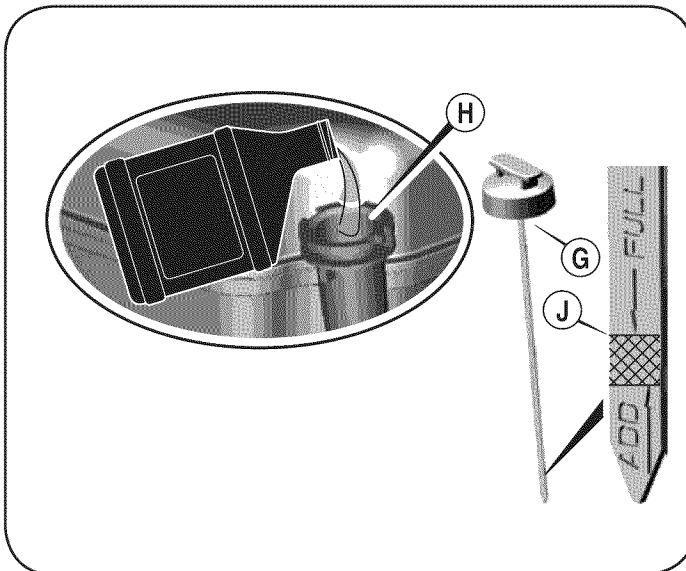

Figure 9
1. Remove oil fill dipstick (G). See Figure 9.
2. With the mower on level ground, empty entire contents of oil bottle provided into the engine oil fill (H).
3. Insert and tighten the oil fill dipstick. Remove it to check the oil level. See Figure 9.
4. If the oil level is near or below the lower limit mark on the dipstick, remove the oil fill dipstick, and fill with the recommended oil to the upper limit mark (J). Do not overfill.